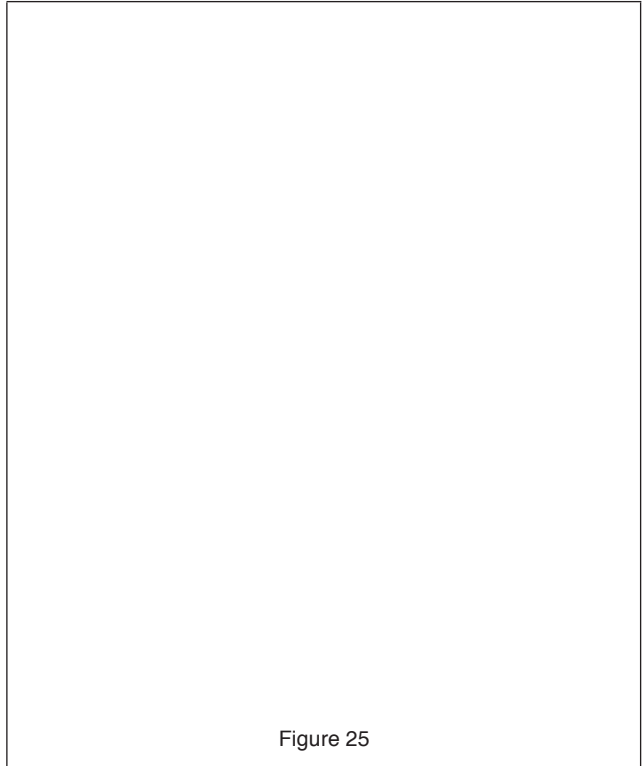

Figure 25
1. Take out bolt ① from accessory bag, then use Phillips screwdriver to secure the bolt ① into the bolt hole ② of refrigerator doors. See Figure 25.